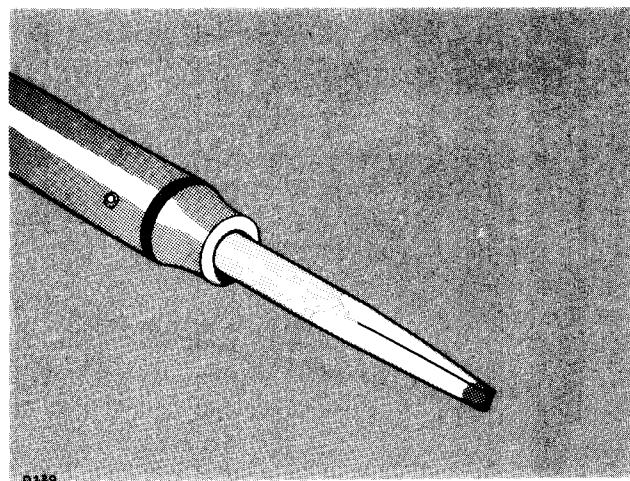

Fig. 5-3. Soldering iron tip properly shaped and tinned.
Because of the shape of the terminals on the ceramic strips it is advisable to use a wedge-shaped tip on your soldering iron when you are installing or removing parts from the strips. Fig. 5-3 will show you the correct shape for the tip of the soldering iron. Be sure to file smooth all surfaces of the iron which will be tinned. This prevents solder from building up on rough spots where it will quickly oxidize.
2. Prepare the tip of the iron as shown in Fig. 5-3.